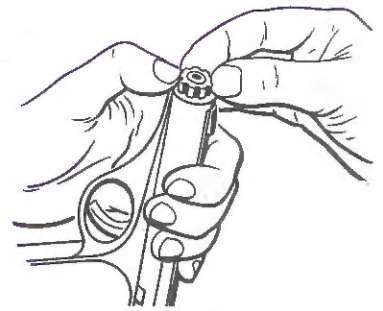

Fig. 3
3. Depress the lock plunger in the muzzle flush with the frame and remove the nut on the end of the barrel by turning in a counter clockwise position. (Fig. 3)